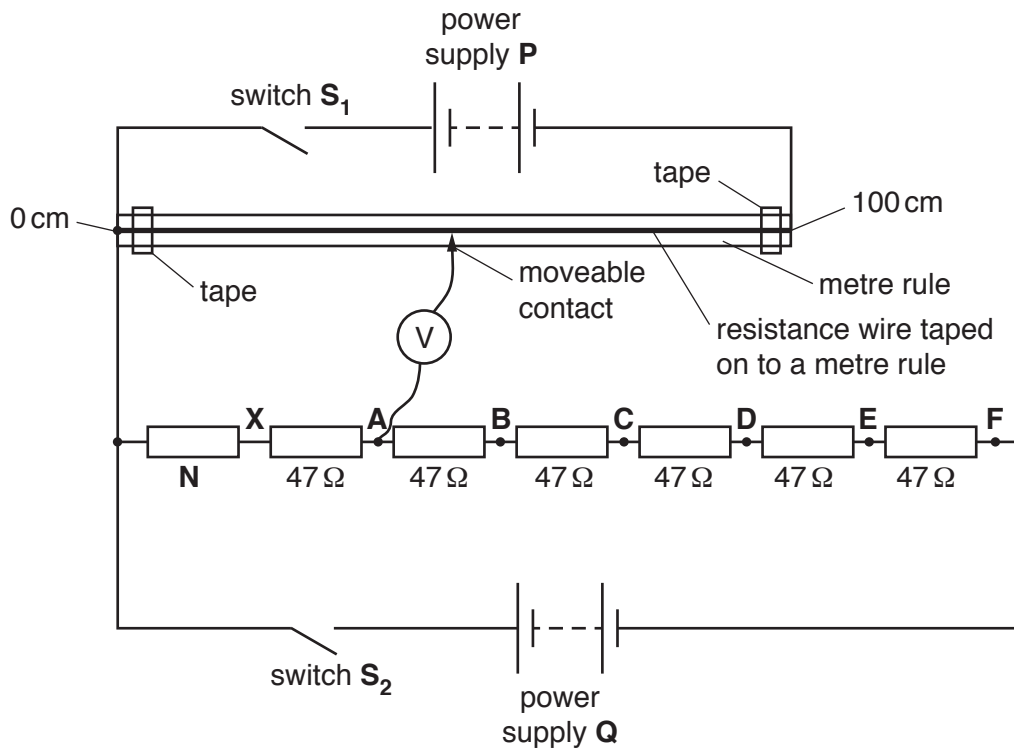

Fig. 1.1
- 3 The resistors should be soldered in series with the unknown resistor at the beginning of the chain. The conducting section labelled **X** in Fig. 1.1 between the 82Ω resistor (**N**) and the first 47Ω resistor should be taped over so that an electrical connection cannot be made. The label **X** is not required for the candidates.
The circuit should be as shown in Fig. 1.1. The e.m.f. of both power supplies should be checked. Spare cells should be available.